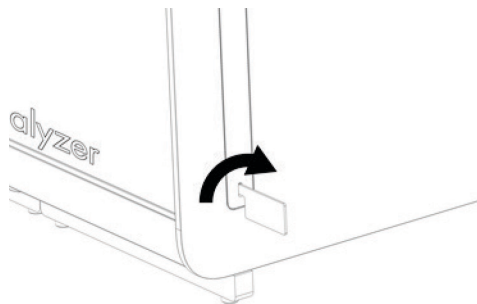

Figure 5. Removing protective covers.
2. Remove the protective covers from the side of the Analytical Module using the Protective Cover Removal Tool delivered with the QIAstat-Dx Analyzer 1.0 (Figure 5).